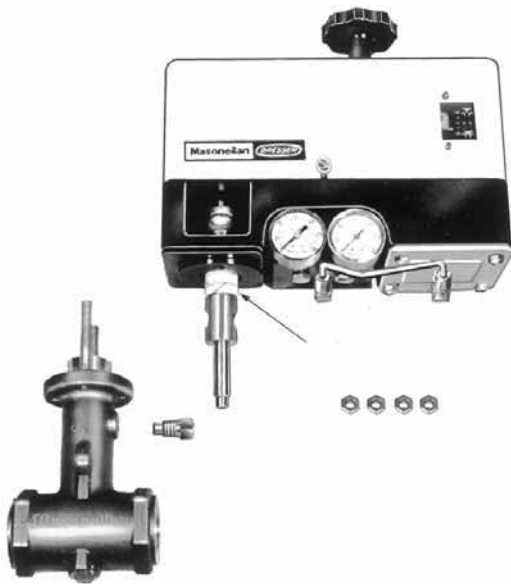

Figure 21 - Packing replacement (for C_v maxi \geq 0.6)
- N. Admit the signal and supply pressure and complete calibration. Refit cover (110) using the two screws (109). If the valve is equipped with a handwheel, refit the cover, then turn the handwheel clockwise until it is engaged in lever arm stop (122). Tighten cover screws (109).
5.5 PACKING QUICK CHANGE METHOD (ONLY FOR VALVES WITH MAX. C_v OF 0.6 TO 3.8) (Figures 21, 26 and 27)